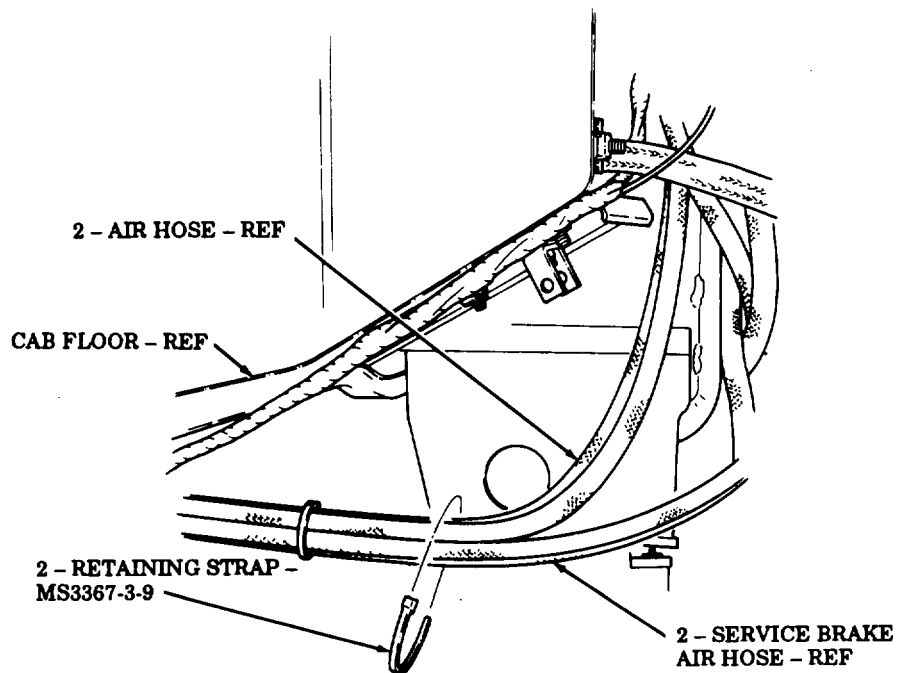

FIGURE 2
- (7) Install two air hoses on service brake air hoses with two MS3367-3-9 retaining straps as shown in figure 2.